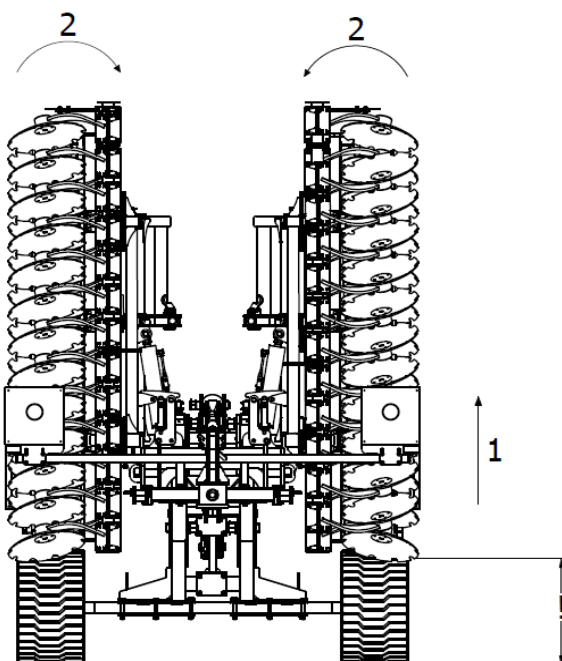

Figure 9 Machine opening sequence: 1- lift the machine up to its maximum, 2- fold the machine wings into the "closed" position.
1. The machine must be raised as much as possible to enable it to be folded correctly, avoiding the risk of the folding arms catching on the ground during movement (fig. 9).
2. The next step is to hydraulically fold the wings of the machine into the 'closed' position, the purpose of which is to ensure that the wing lock mechanism unlocks and allows the machine arms to be opened at a later stage. This operation is necessary every time the arms of the unit are opened (fig. 9).